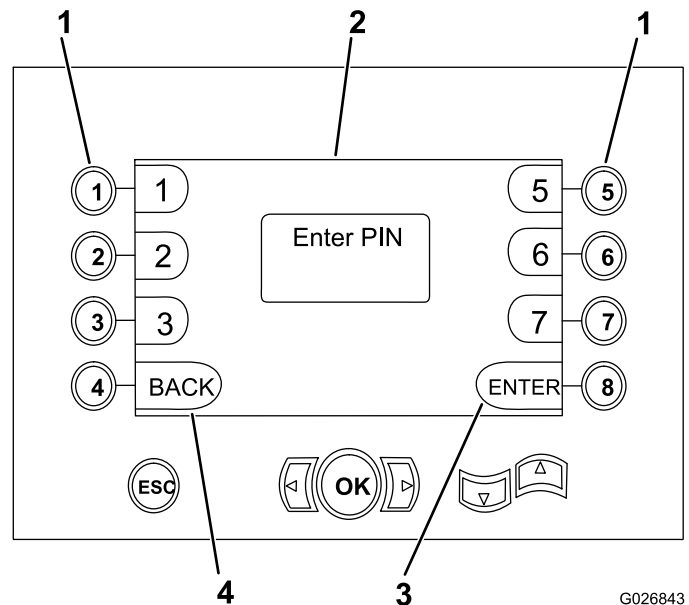

Figure 37
- Button 1 enters the number 1 (Figure 37)
- Button 2 enters the number 2 (Figure 37)
- Button 3 enters the number 3 (Figure 37)
- Button 5 enters the letter A (Figure 37)
- Button 6 enters the letter B (Figure 37)
- Button 7 enters the letter C (Figure 37)